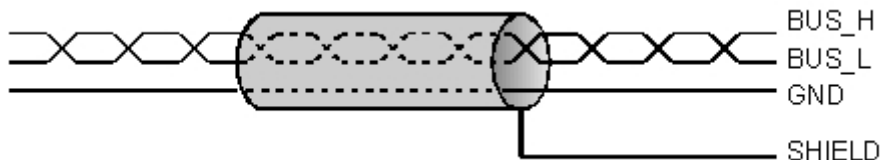

Figure 8: Cable connection for Profibus-DP
- The BUS-H and BUS_L pins must be connected to the same twisted pair (see Figure 8); the cable shield should be connected to the connector chassis.